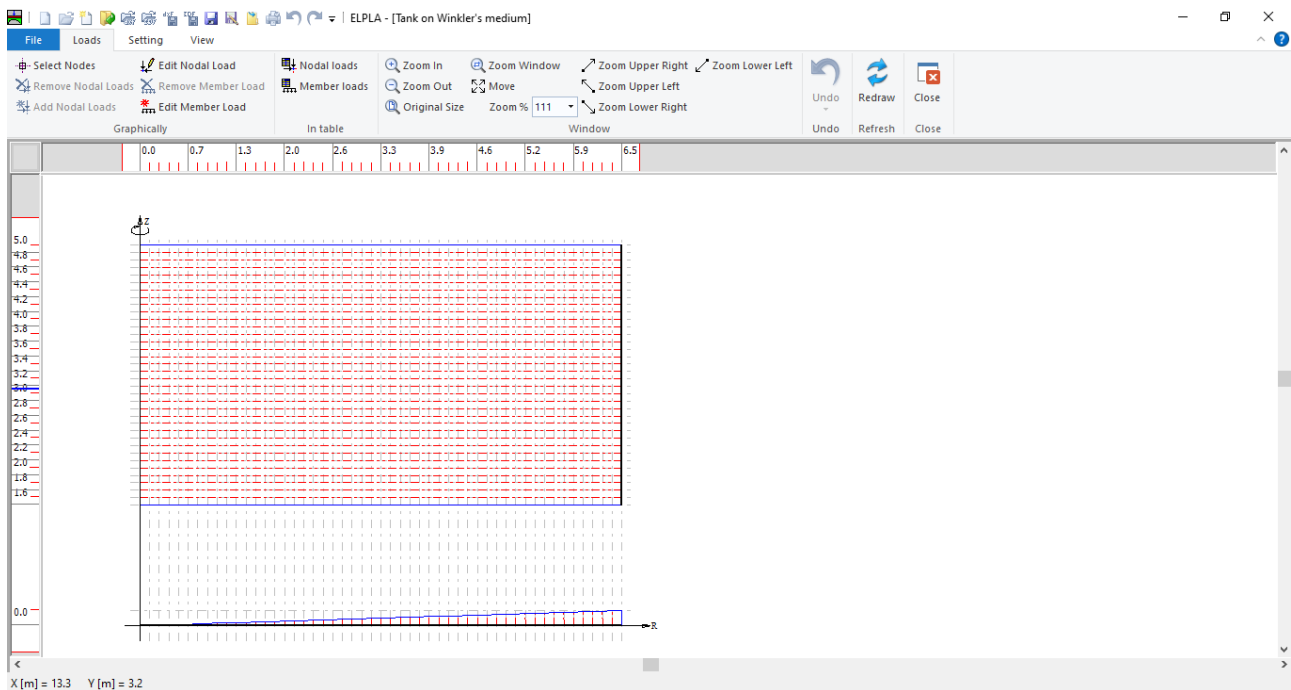

Figure 6.17 "Loads" Window
To define the loads, choose "Loads" command from "Data" Tab. The following window in Figure 6.17 appears. In *ELPLA*, entering loads may be carried out either numerically (in a table) or graphically using the commands of "Loads" tab in Figure 6.17. In this example, there is not applied load, as the vertical load has been already defined by the unit weight of the tank, while the hydrostatic pressure on the tank wall is defined by the unit weight of water.
- Choose "Save" command from "File" menu in Figure 6.17 to save the load data
- Choose "Close" command from "File" menu in Figure 6.17 to close the "Loads" window and return to *ELPLA* main window